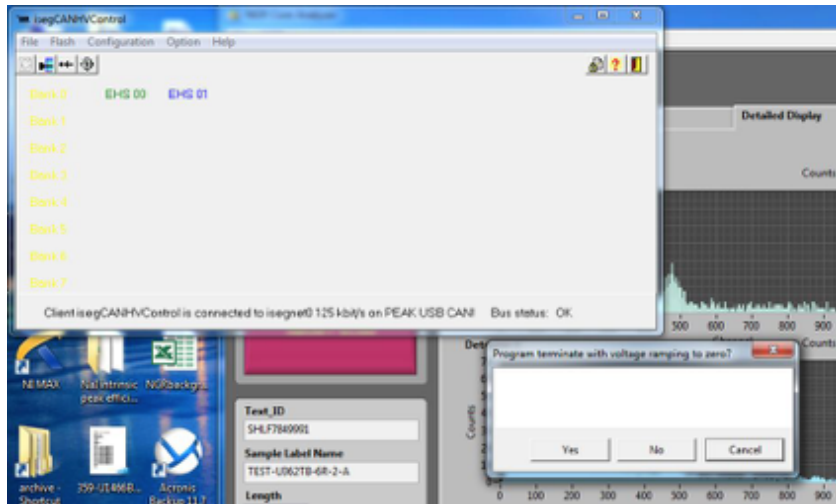

Figure 21. Program termination query.
5. **Exit** the *iSEG* program. A window (Figure 21) will pop-up asking: **Program terminate with voltage ramping to zero?**. Click **YES**. The power will ramp down on all channels.